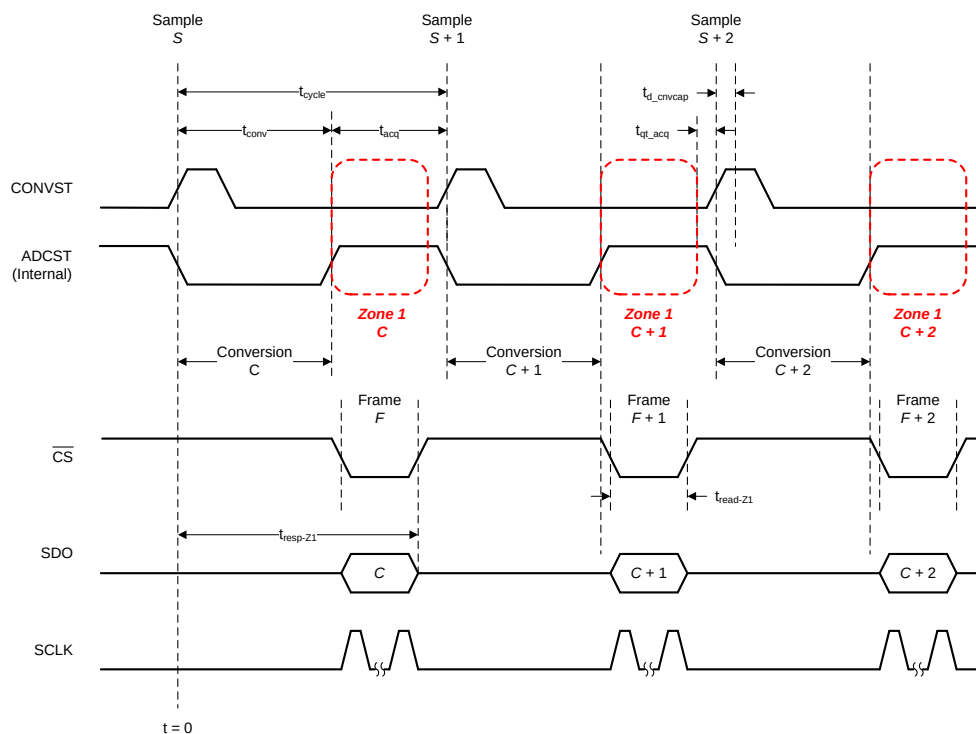
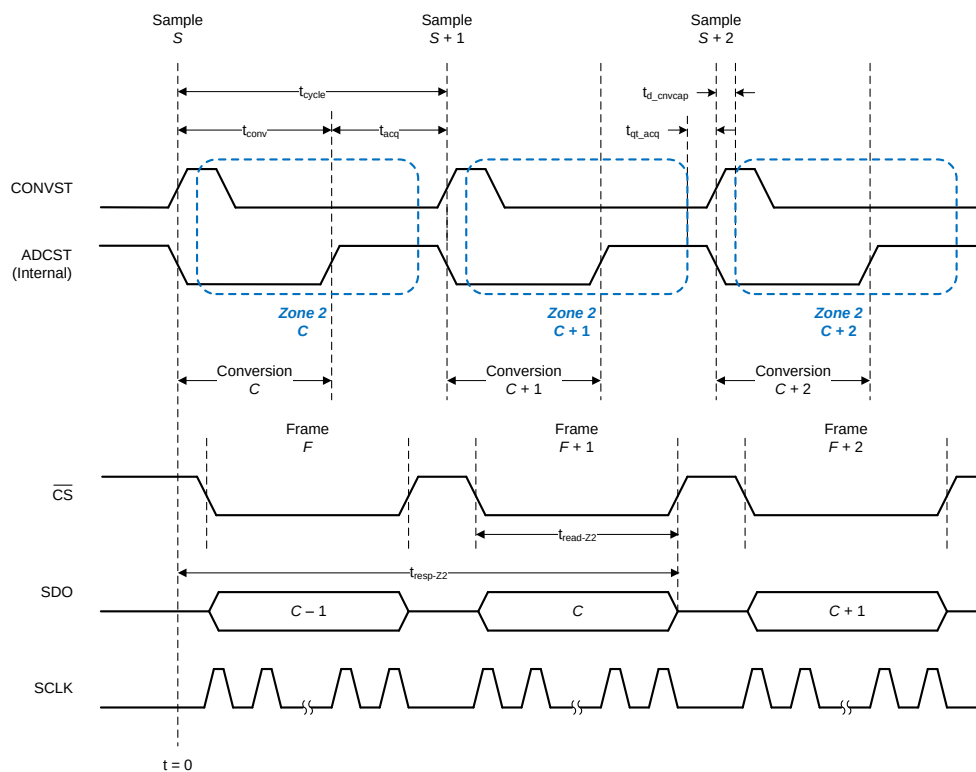

Figure 45. Zone 1 Data Transfer
Figure 46. Zone 2 Data Transfer
Figure 45 and Figure 46 illustrate interleaving of three conversion cycles (C , $C + 1$, and $C + 2$) with three data transfer frames (F , $F + 1$, and $F + 2$) in zone 1 and in zone 2, respectively.
- Extended data transfer window, as shown in Figure 46.